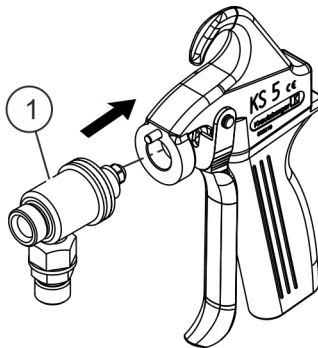

Fig. 25: Slide head piece into the main element
4. ➔ Push the head piece (Fig. 25/1) with seal screw, insulating sleeve and insulating washer into the borehole of the main element.